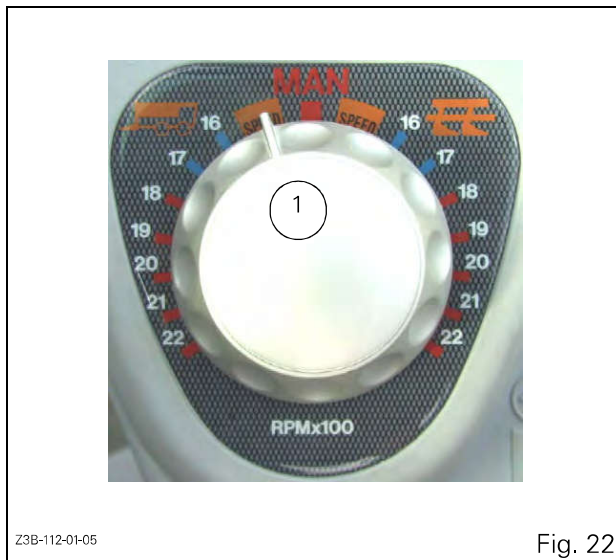

Fig. 22
Position the selector ref.1, Fig. 22 in SPEED position in ROAD mode and carry out the following operations:
#### • Shifting Dyna-6 ratios and ranges Fig. 22: